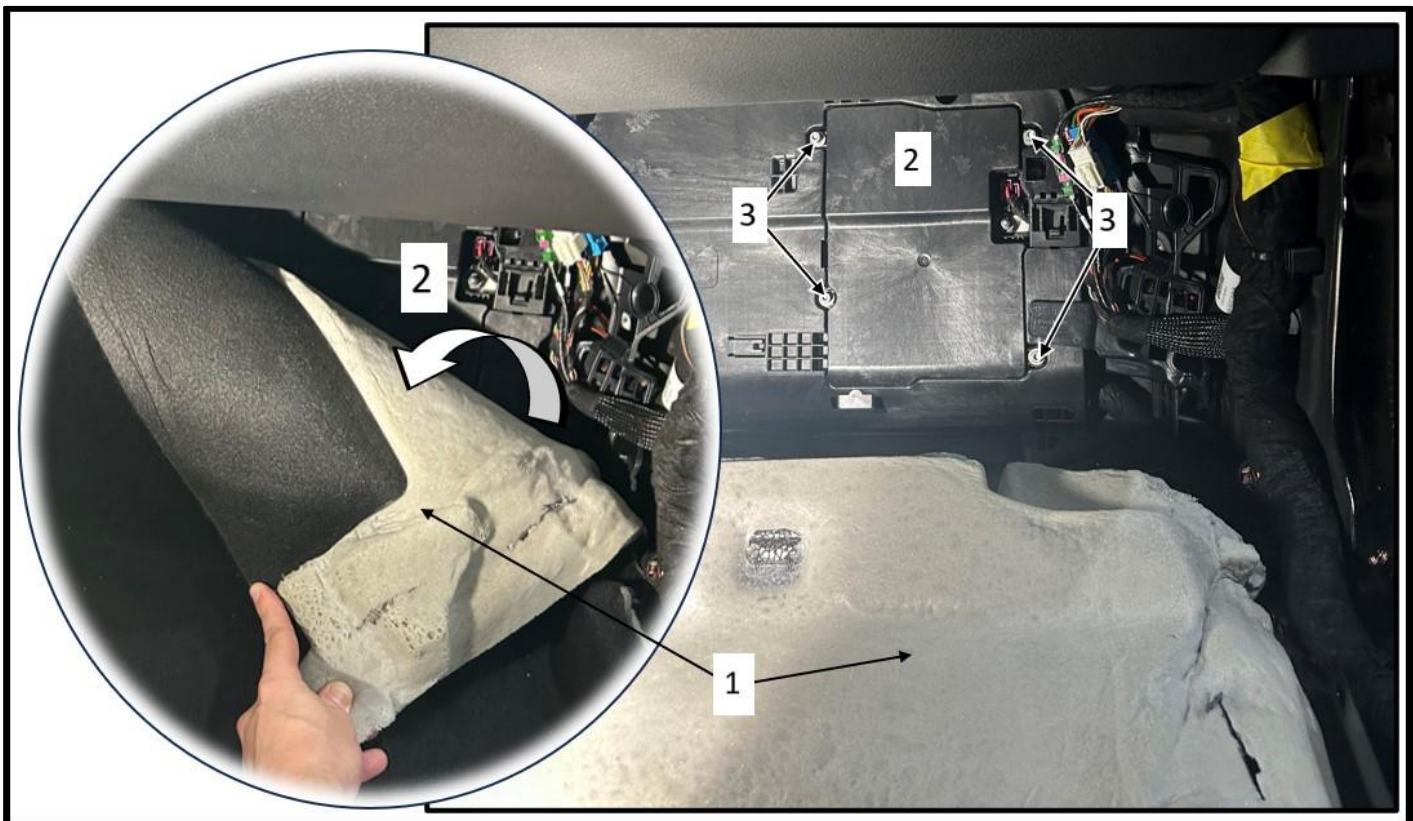
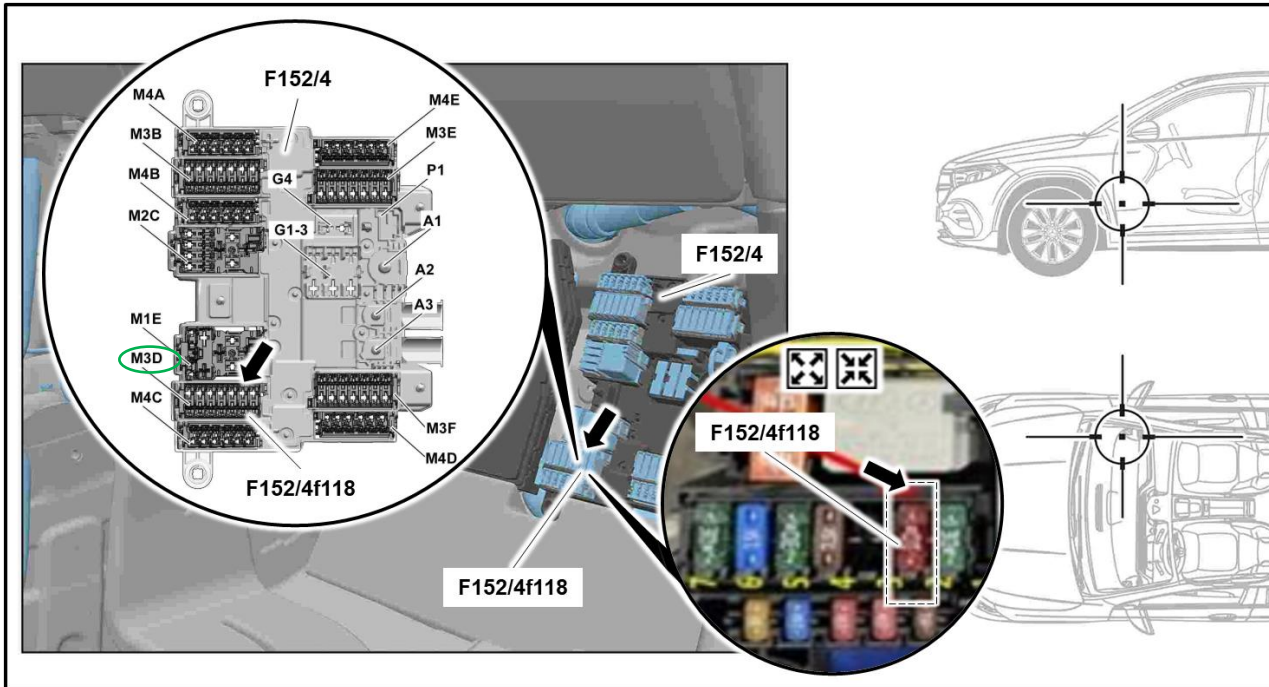

Figure 1
Figure 2
4. Fold back the front passenger side floor covering (Figure 1, 1) until the cover (Figure 1, 2) of the fuse and relay module in vehicle interior (Figure 2, F152/4) is accessible.
5. Remove screws (Figure 1, 3) and cover (Figure 1, 2) of fuse and relay module in vehicle interior (Figure 2, F152/4).
i **Installation:** Tighten screws (Figure 1, 3) with a torque of **5 Nm**.
6. Replace electrical **fuse 118** (Figure 2, F152/4f118) for left rear USB port 1 (X39/22) and right rear USB port 2 (X39/23) on fuse and relay module in vehicle interior (Figure 2, F152/4).
i Electrical **fuse 118** (Figure 2, F152/4f118) is located at **slot 2** of the electric connection (Figure 2, M3D) on the fuse and relay module in the vehicle interior (Figure 2, F152/4).
i **Installation:** To do this, **use a new 10 A electrical fuse** (arrow, Figure 2) and install it in slot 2 of the electric plug connection (Figure 2, M3D) on the fuse and relay module in the vehicle interior (Figure 2, F152/4).